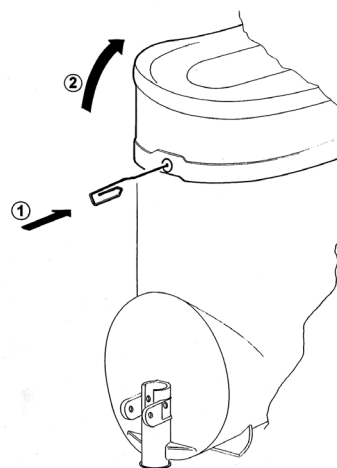

figure 3
- 10 - To release a locked top cover it is necessary to insert a sharpened object in the hole located in the middle of the fixing button, push it and lift the cover. (see figure 3)